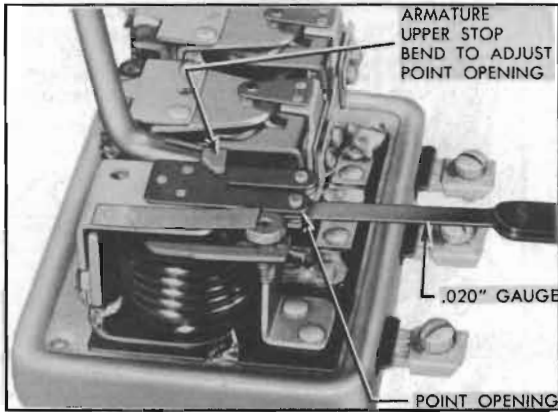

Figure 10-28—Adjustment of Cutout Relay Contact Point Opening
2. Check contact point opening with feeler gauges. Opening should be .020". Increase or decrease point opening, if necessary, by bending the upper armature stop. See figure 10-28.